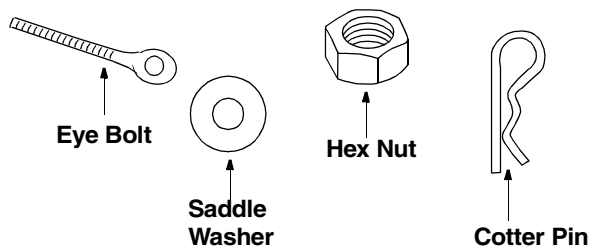
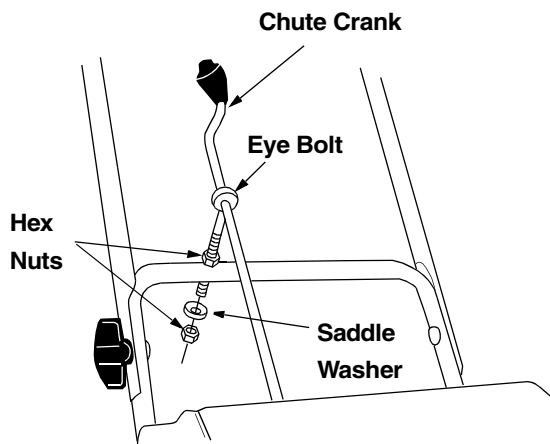

Figure 2
Figure 5
Models with optional extended chute crank (Figure 2)
- Thread one 5/16” hex nut all the way onto the eyebolt. See Figure 5. All necessary hardware is included in the hardware pack shipped with your unit. See Figure 2 for more details.